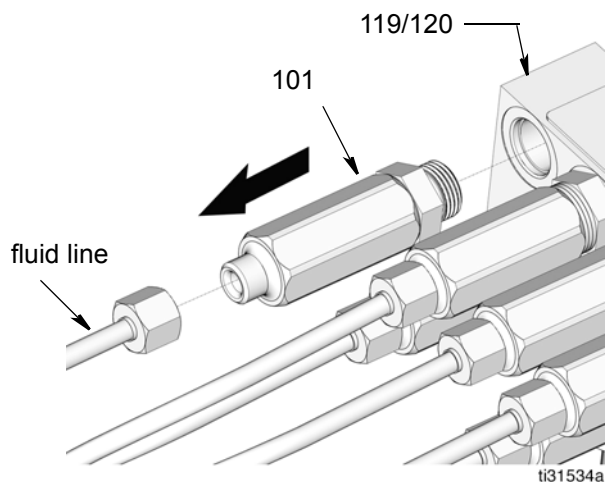

FIG. 38
- b. Remove the feed line. Use a 5/8" deep well socket to remove injector (101) from manifold (119/120) (FIG. 38).